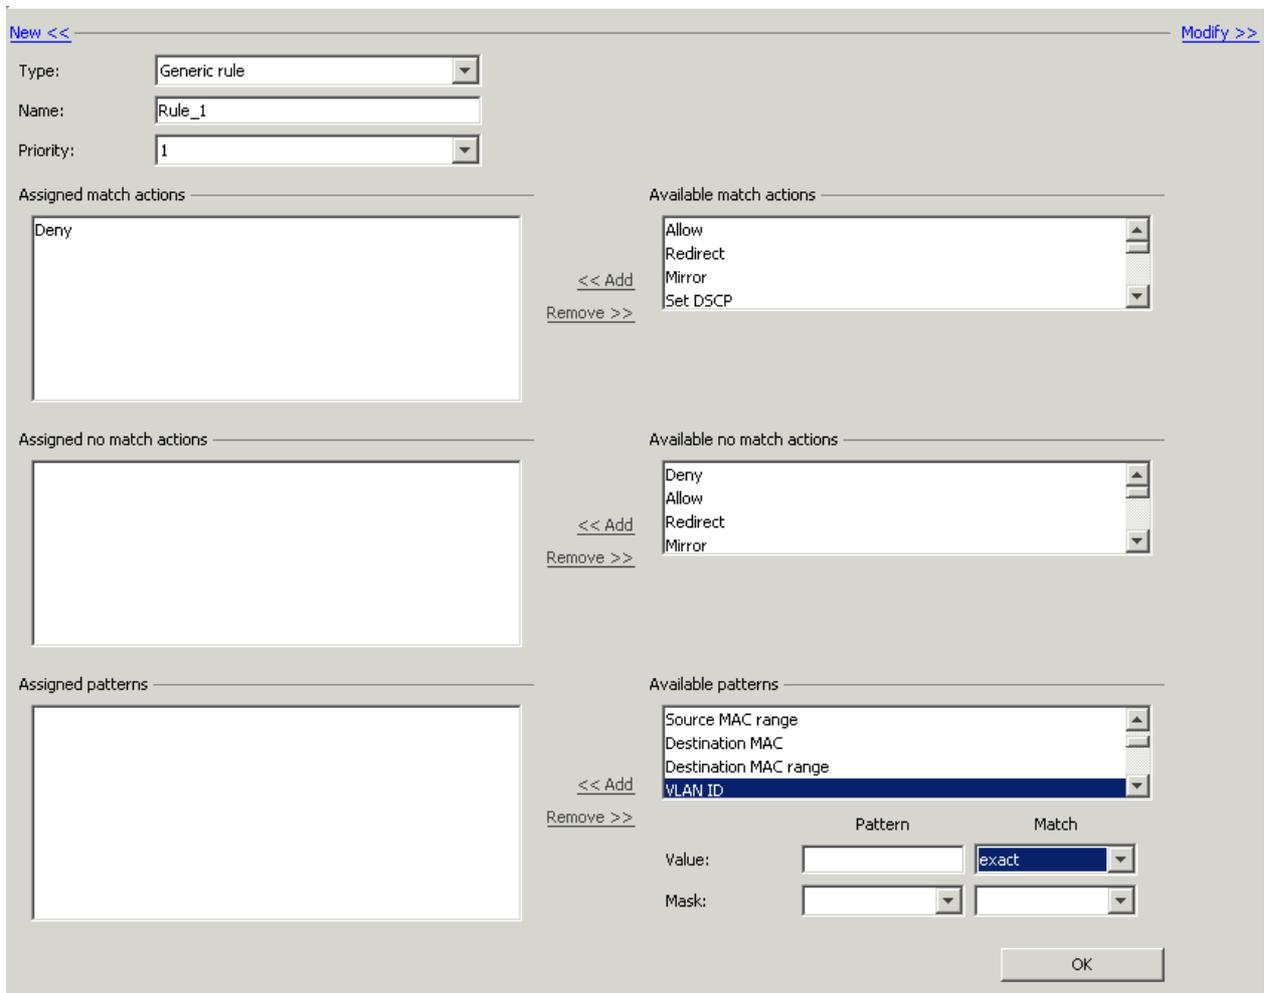

Figure 75 Rule Configuration Page (CXU)
2. Click the "New>>" action field to create a new rule, see Figure 75 (if not already expanded).